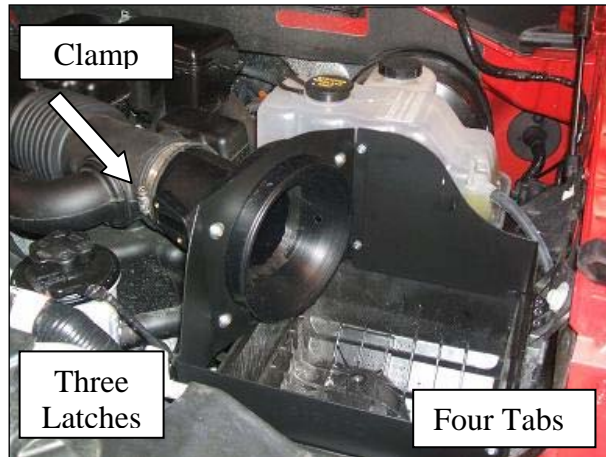

Figure 5
10. Install the Air Box Assembly onto the top of the factory airbox base by sliding the four (4) tabs on the Air Box Assembly into the slots on the factory air box base. Latch the three (3) latches on the air box base to secure the Air Box Assembly. Slide the factory air inlet tube onto the MAF Tube and tighten the hose clamp. Refer to Figure 5.